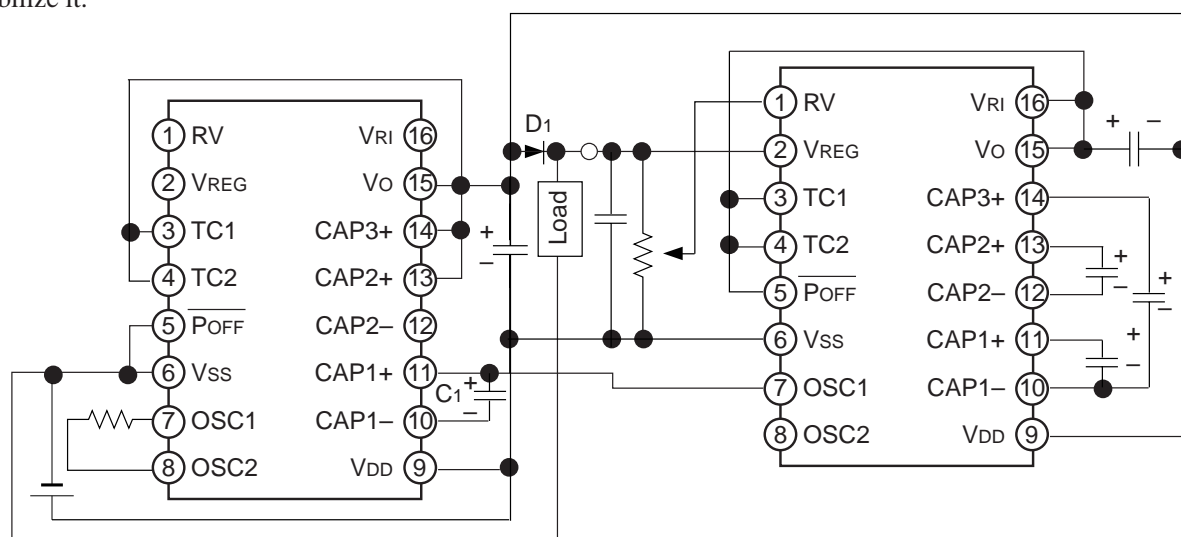
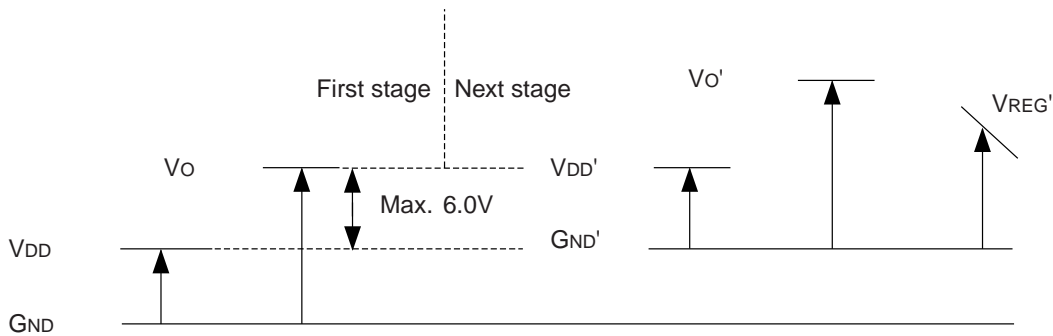

Figure 8.4 Series Connection
Figure 8.5 Power Supply System in Series Connection
When S1F76640 is connected in series (V_{DD} and V_O in the previous stage are connected to GND and V_{DD} in the next stage respectively), the output voltage can be increased more. But the series connection makes the output impedance high. Figure 8.4 shows an example of the series connection to get $V_O=25V$ from $V_{DD}=5V$ and to stabilize it.
When a load is connected between GND in the first stage (or potential below GND in the second stage other than that) and VREG in the second stage as shown in Figure 8.4, pay attention to the following. When a normal output is not available at the VREG pin at the starting time or when the $\overline{\text{POFF}}$ signal turns off VREG, current may flows from GND in the first stage (or potential below GND in the second stage other than that) to the VREG pin in the second stage through the load and a voltage higher than the absolute maximum rating below GND in the second stage may be generated at the VREG pin. As a result, the IC may not work normally. For series connection, connect the diode D1 between VDD and VREG in the second stage as shown in Figure 8.4, so that no potential below GND in the second stage is added to the VREG pin.
- Note 2 : Figure 8.4 shows 3 times step-up in the first stage and 4 times step-up in the next stage, but 4 times step-up is possible both in the first stage and in the next stage unless the input voltage $\text{VDD}'\text{-GND}'$ exceeds the specification value (6.0V). This means that each IC in this series connection is requested to satisfy the specification values ($\text{VDD-GND} \leq 6, 0\text{V}$, $\text{Vo-GND} \leq 24\text{V}$). (See Figure 8.5.)
- Note 4 : In case of series connection, the voltage VDD-VREG ($\text{VREG}'\text{-VDD}'$ in Figure 8.5) of the IC, for which the stabilization circuit operates, has temperature gradient. This means that VREG changes at the following rate as temperature changes: